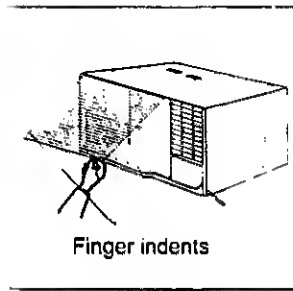

Fig 2
- B Locate the finger indents on the underside of the interior air inlet grille (Fig 2)
- C. Lift the air inlet grille (fully open) until it disengages from the top edge of the front panel (Fig 2)